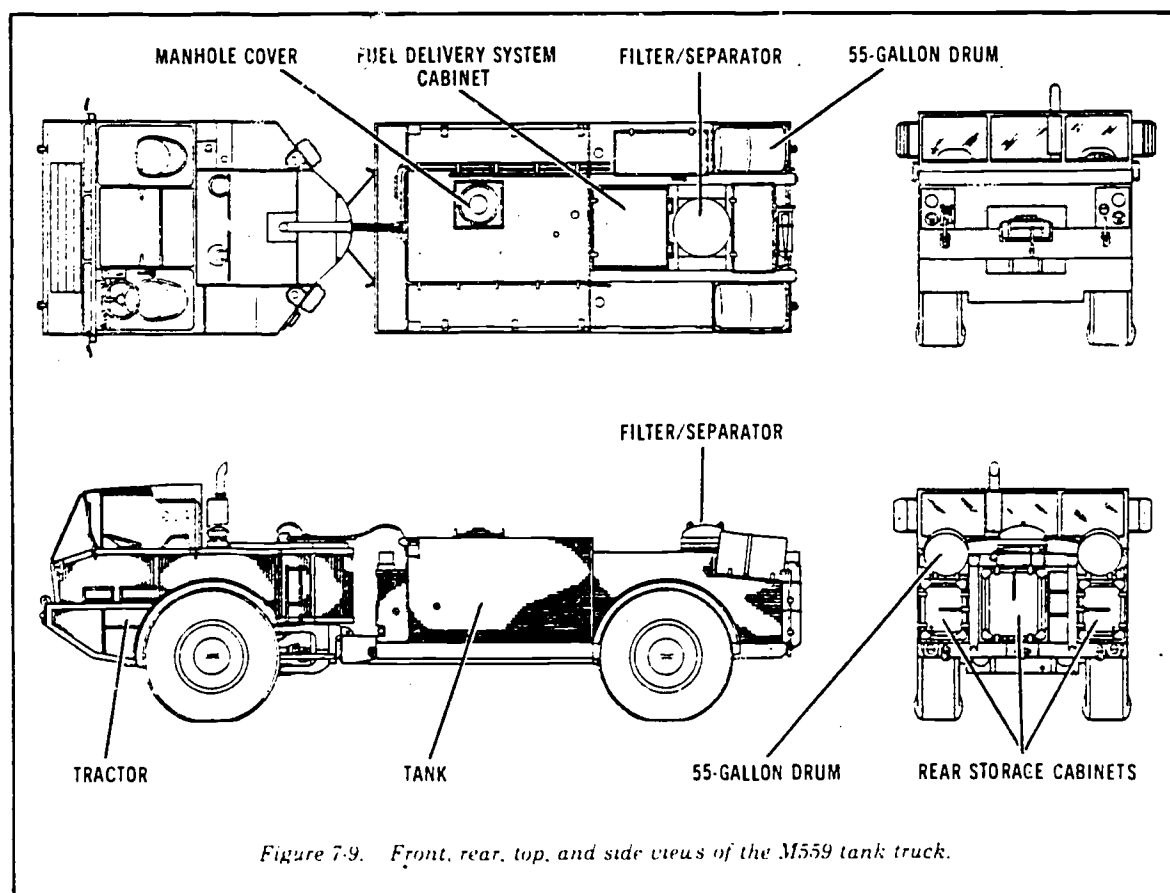

Figure 7-9. Front, rear, top, and side views of the M559 tank truck.
vertical baffle. A manhole cover and two fuel vent covers are located on top of the tank (fig 7-9). A cabinet just behind the tank houses three pressure discharge outlets, gate valves, and the vehicle's fuel delivery manifold system. A gravity discharge outlet, used to dispense bulk fuel to storage sites, is located in back of the rear axle on the bottom of the tank. There are three storage cabinets at the rear of the vehicle (fig 7-9). They house the vehicle's dispensing hose. There is space on the right and left rear of the vehicle for two 55-gallon drums or packaged petroleum products (fig 7-9). Two 15-pound carbon dioxide fire extinguishers are mounted in the front and rear of the tank body.
□ Filter/separator. A filter/separator is located on top of the tank body (fig 7-9) of the M559 tank truck. It has 15 replaceable elements and canisters, a pressure-differential indicator, and an automatic dump valve. The indicator shows at a glance when the filter elements need to be changed. A yellow button appears when the pressure differential equals or exceeds 20 pounds per square inch (psi). This means the elements are starting to wear but do not need to be changed. A red button appears when the pressure equals or exceeds 35 psi. This means the elements must be changed immediately. The automatic dump valve on the filter/separator is float operated. When too much water is collected, the float closes the separator fuel outlet and automatically dumps the water.